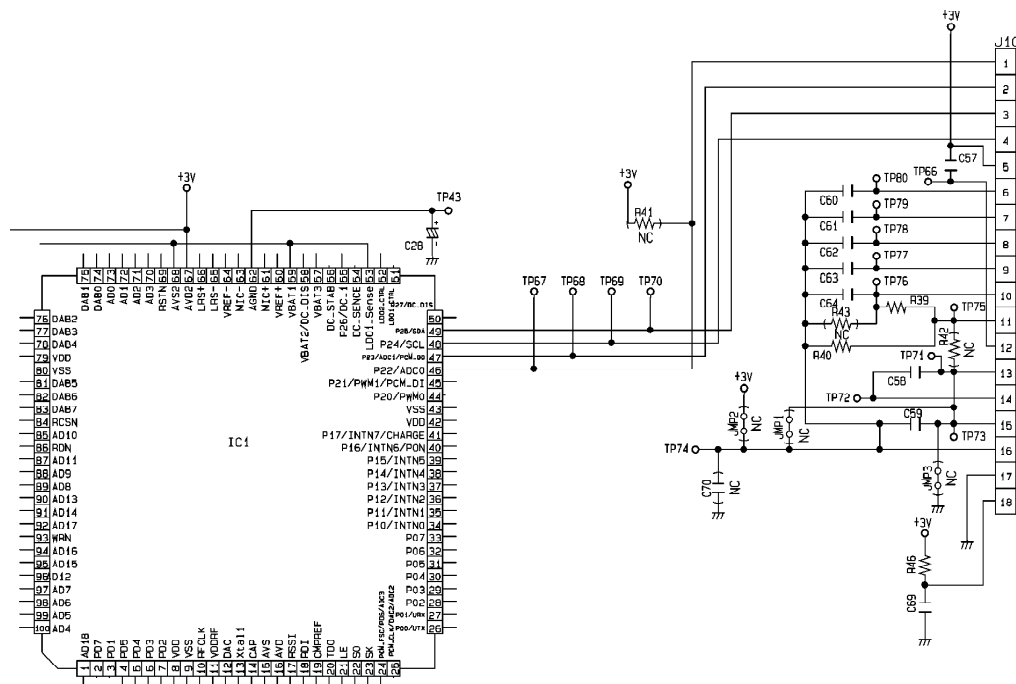

Fig. 26
9.1.3. LCD DISPLAY, AND DISPLAY DRIVER (SEE Fig. 26)